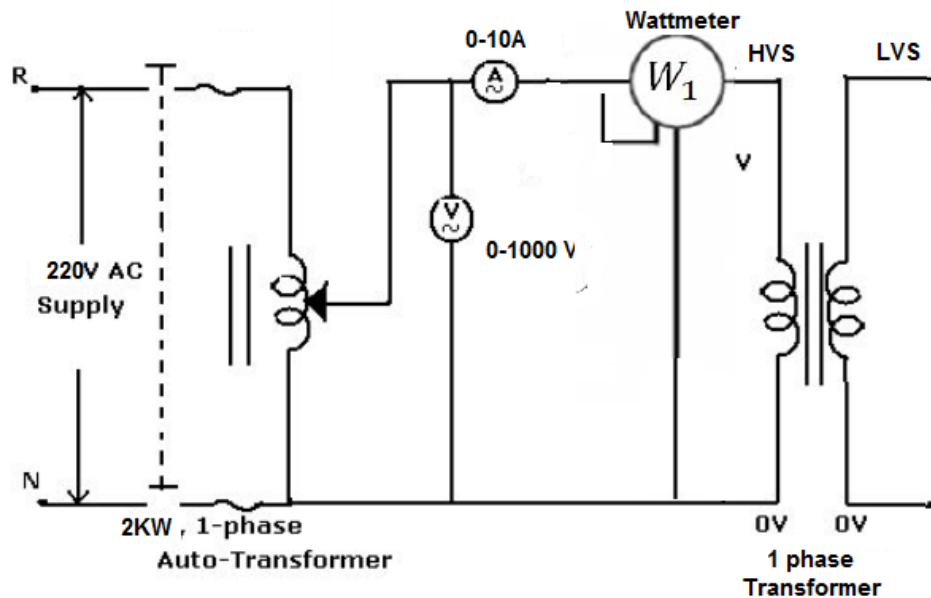

Figure 2: Connection Diagram for Short Circuit Test.
1. Connect the circuit diagram as shown in the Figure 2.